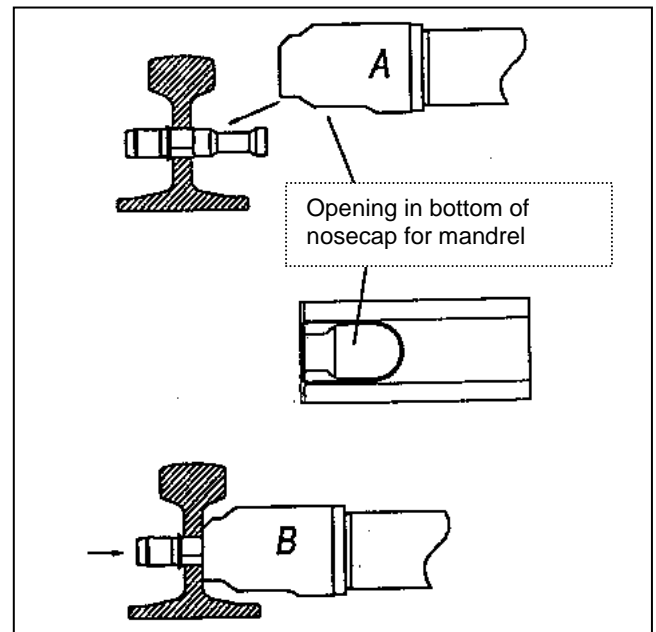

Figure 3.2-1
1. With proper mandrel and sleeve inserted in hole, install puller nosecap over mandrel from above (Figure 3.2-1, piece A).
2. Activate puller to pull mandrel through the sleeve in the hole by putting control valve in 4:00 position (Figure 3.2-1, piece B). Refer to Figure 2 for control valve position.